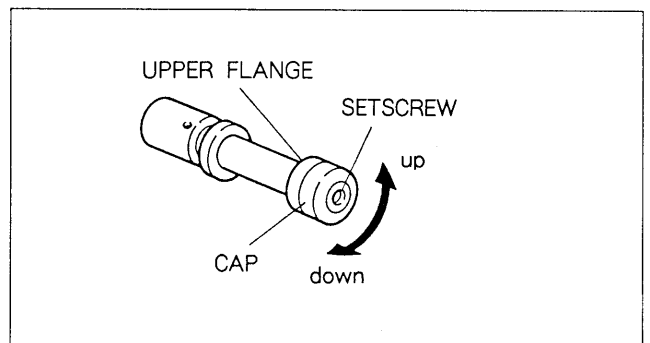

Fig. 9-3-9. Guide Post 4 Height Adjustment
7. Guide Post 4 Height Adjustment (See Fig. 9-3-9.)